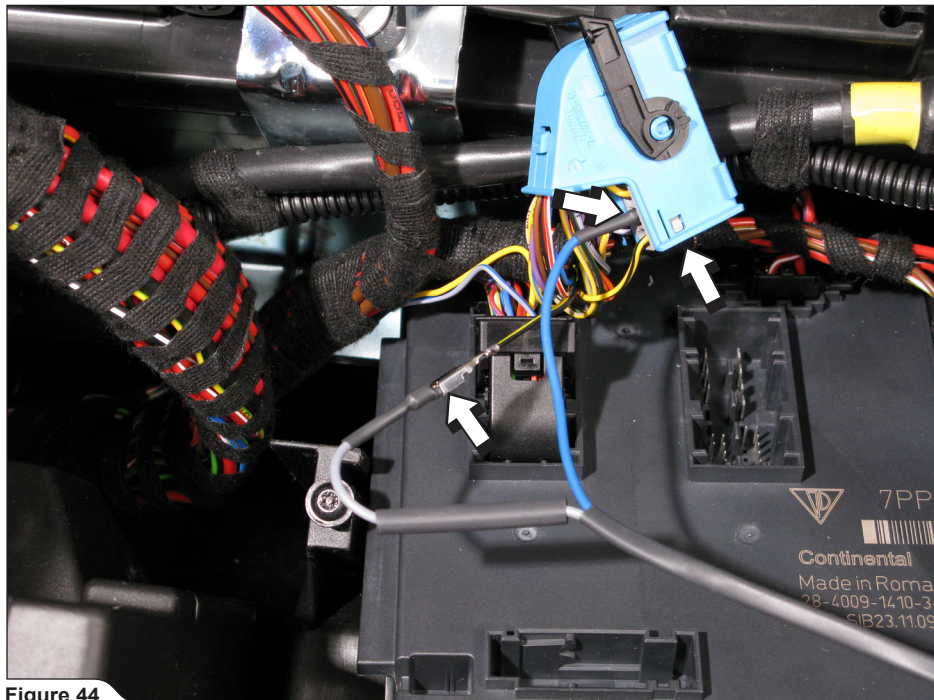

Figure 44
8. Link the transmitters grey wire to original black wire with yellow stripe, correctly insert the transmitters blue wire pin into the original connector (replaces the original black wire with yellow stripe) and assemble the original connector (**Figure 44**).